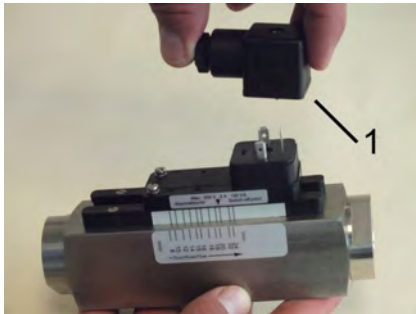

Fig. 23: Remove socket
2. ➤ Remove socket (Fig. 23/1)
9. ➔ Place the female socket onto the connecting plug and tighten the fixing screw (Fig. 23/1)